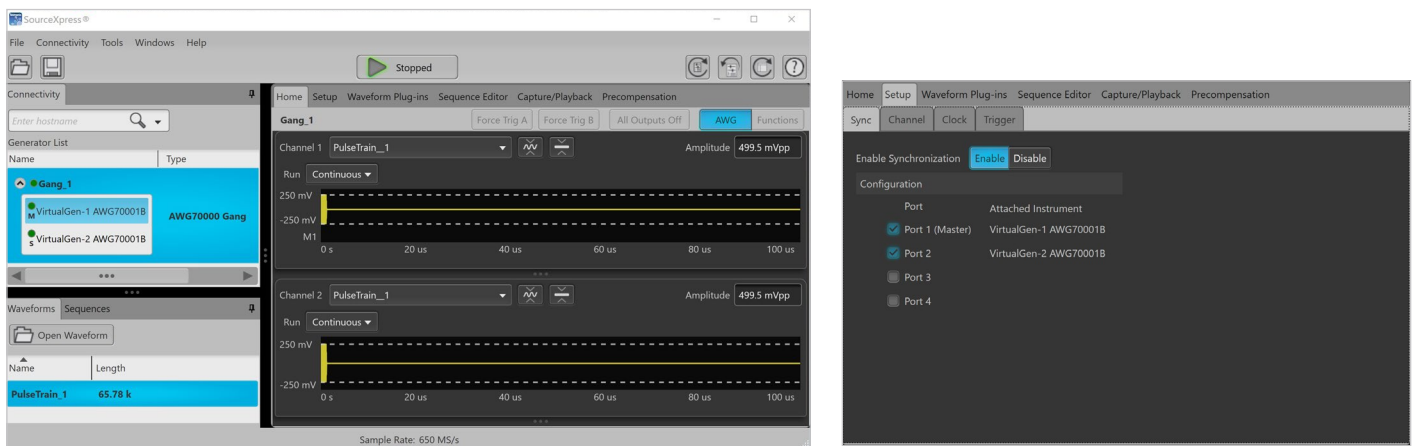

Figure 6: AWG gang setup.
- o The hub is connected to 2, 3, or 4 identical AWG70000A/B series instruments using custom RF and data cables which are supplied with the hub. You can treat the multiple AWG instruments as an AWG gang as shown in Figure 6 so they appear to act as a multichannel instrument in SourceXpress.